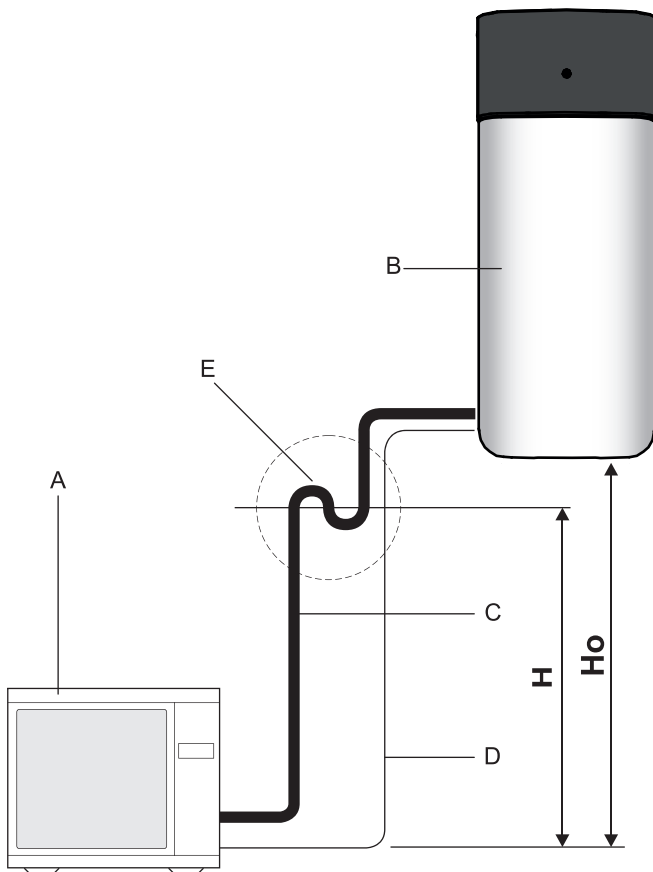

Fig. 4-46 Oil trap bend for refrigerant line
- Required if HPSU compact is not installed at ground level to the external heat pump unit (Fig. 4-46, HO ≥ 10 m).
- At least one oil trap bend must be installed for every 10 m of height difference (Fig. 4-46, H = distance from oil trap bend to oil trap bend).
Tab. 4-9 Legend for Fig. 4-46